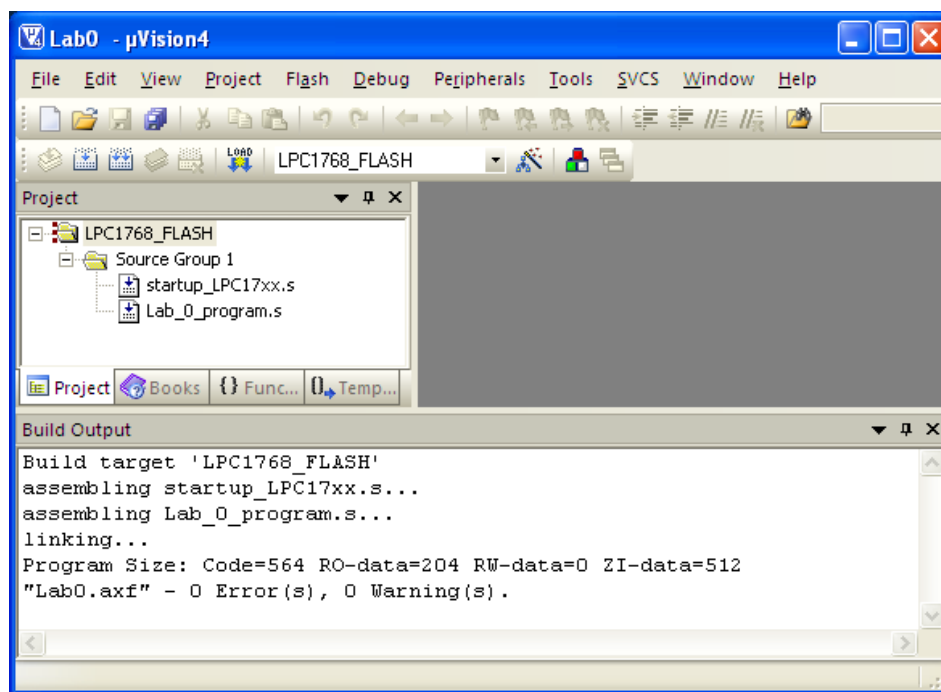

Figure 1.3 – Building the target [5]
- 10 Next, double-click on Target 1 (or click once on the + symbol) to show the files under the target. Your screen should now match Figure 1.3